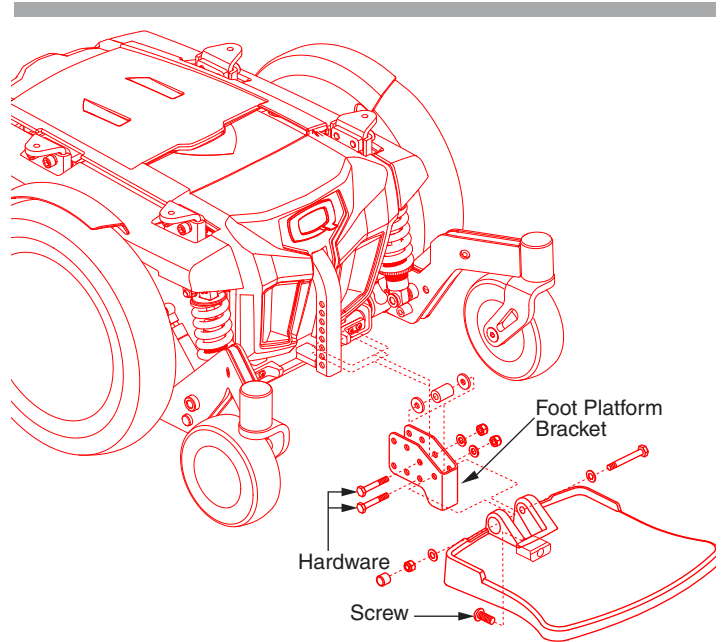

Figure 17. Foot Platform Adjustment
1. Remove the hardware from the foot platform bracket. **See figure 17.**
1. Flip up the foot platform and locate the screw. **See figure 17.**